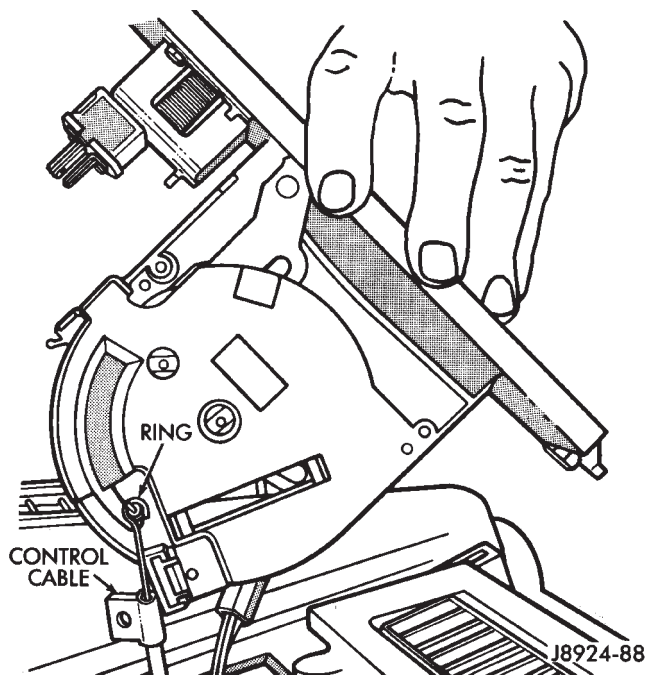

Fig. 8 Control Cable and Ring
(9) Remove the ring on the end of the control cable from the arm on the bottom of the control panel (Fig. 8).